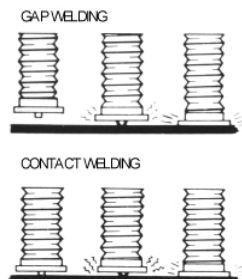
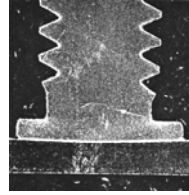

Figure 1
Figure 2
There are two methods of Capacitor Discharge (C.D.) stud welding: (See figure 1)
C.D. stud welding only penetrates the surface of the material (See figure 2). Most sheet metals are weldable without material preparation; however, the base material must be free from all contaminants. Contaminates include: marking pens/ink, cutting oils, grease, oxidation and/or mill scales.
- B. Set-up of Chuck/Collet (See figure 1 in the appendix1).
- i. Aluminum/Brass (See figure 2 in the appendix1)
Refer to Figures 1, 2 and 3 to the right.
Figure 1 depicts the optimal set-up for the fastener in the chuck. To set the stud in the chuck, loosen the backstop screw until the fastener extends approximately $\frac{1}{8}$ inch from the front of the chuck. Tighten the backstop locking nut to preserve this setting. For fasteners longer than 1- $\frac{1}{2}$ inch, back the stop all the way out to obtain as much engagement in the chuck as possible.
If you are welding to aluminum, the set-up of the gun will be as depicted in Figure 2. First follow the directions for Figure 1. Then fully insert the chuck into the gun and tighten the chuck-locking nut. Loosen the two legs by releasing the four (4) set screws in the faceplate. Adjust the legs so that only the flange (approximately $\frac{1}{32}$ inch) of the fastener is observed beyond the brass ring. Tighten the four (4) set screws in the legs. Finally, adjust the spring pressure at the slot screw in the rear of the gun. The pressure should be set to 3.
If you are welding to mild (carbon) or stainless steel, the set-up of the gun will be as depicted in Figure 3. First follow the directions for Figure 1. Then fully insert the chuck into the gun and tighten the chuck-locking nut. Loosen the two legs by releasing the four (4) set screws in the faceplate. Adjust the legs so that approximately $\frac{3}{32}$ inch of the fastener is observed beyond the brass ring. Tighten the four (4) set screws in the legs. Finally, adjust the spring pressure at the slot screw in the rear of the gun. The pressure should be set to 1. The gun set-up is now complete.